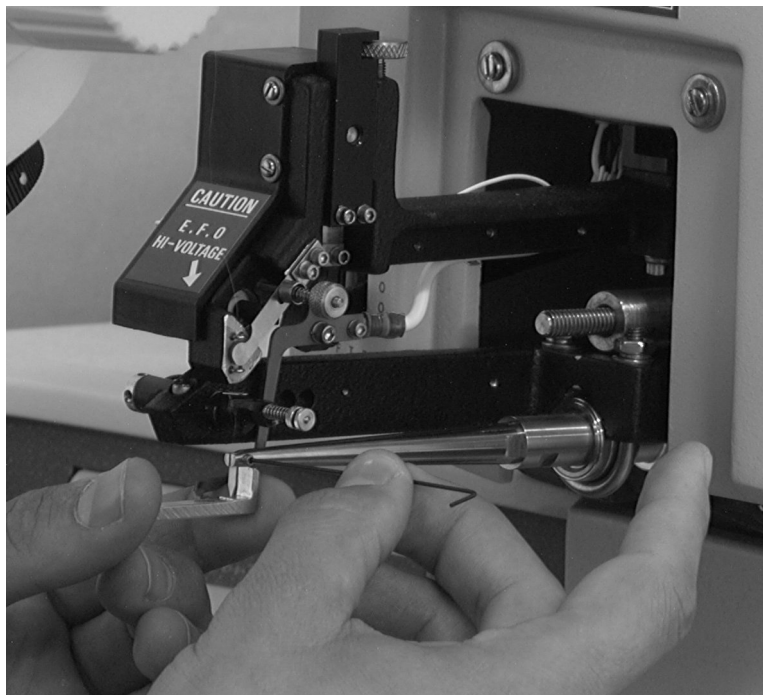

Figure 5-3: Capillary Insertion Using Setup Gauge - 4524D, 4524AD
- 3 Position the setup gauge under the capillary (see Figure 5-3).
- 4 Loosen the set screw and gently push the capillary down until its tip just rests on the setup gauge (see Figure 5-3). Tighten the capillary set screw.